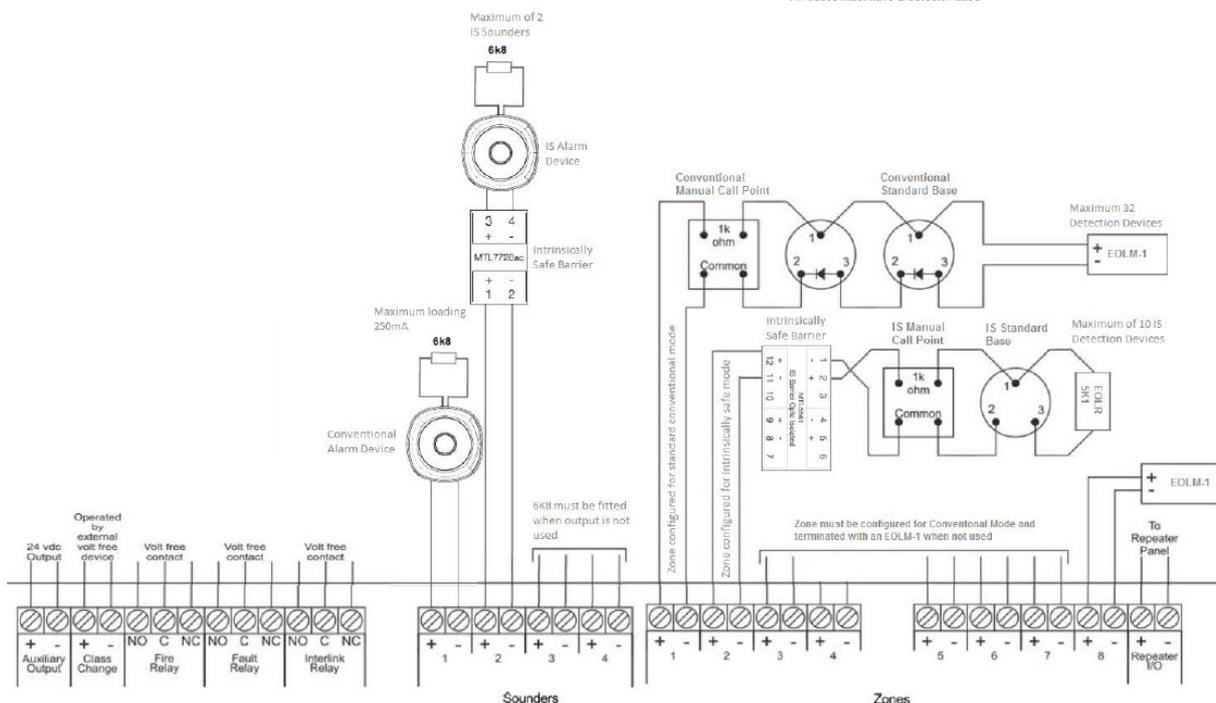

Figure 20: Repeater Output Setting
- Connect the cables from the repeater panel to the Repeater terminals on the main board of the fire alarm panel, observing the correct polarity (see Figure 20).
- Power up the panel by connecting the white socket of the battery cable to the power supply (see Figure 20) and engaging the fuse spur to supply mains.